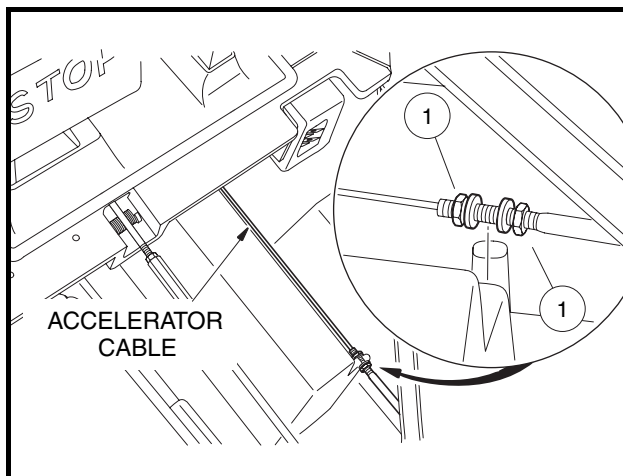

Figure 5-9 Accelerator Cable Adjustments
7. Position accelerator cable in its bracket. Ensure there is a nut (1) on each side of the mounting tabs (**Figure 5-9, Page 5-7**).
8. Adjust the position of the accelerator cable sleeve in the bracket until there is no slack in the wire portion of the cable. Tighten both nuts (1) to 9 in-lb (1 N·m) to secure the cable in position (**Figure 5-9, Page 5-7**).